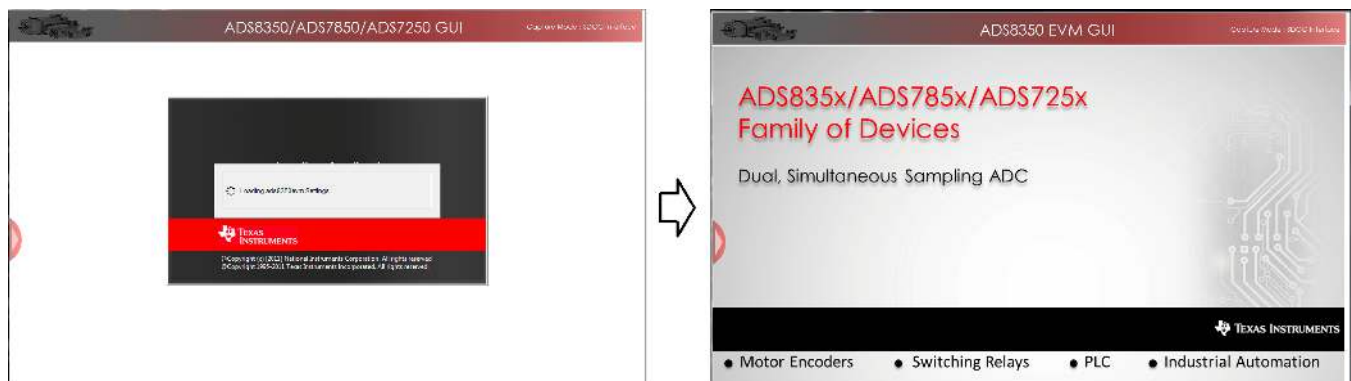

Figure 16. GUI Display Prompt
- Step 3. Verify that the software detects the ADS8350EVM. The GUI identifies the EVM hardware that is connected to the controller board and displays *Loading the ADS8350evm Settings*. After the settings are loaded, *ADS8350EVM GUI* displays at the top of the GUI screen, as shown in Figure 16.